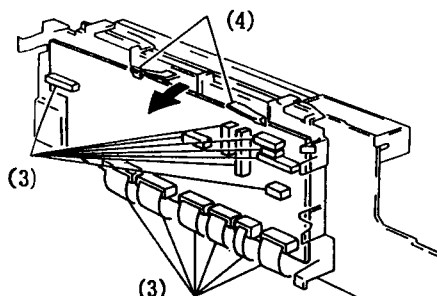

Fig. 4-2 Timer Sub Circuit Board
2. Timer Sub Circuit Board (Fig. 4-2)